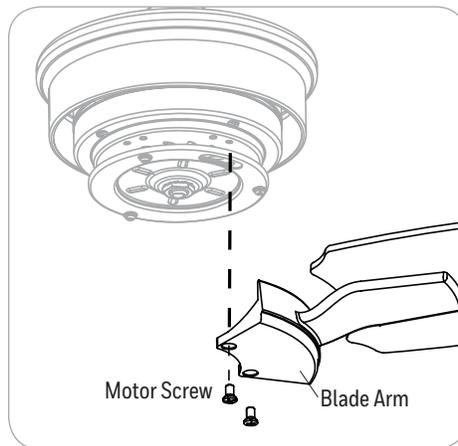

Figure 5.5
- Remove the 10 motor screws from the underside of the motor assembly. Then, install the blade arms to the underside of the motor assembly using the ten previously removed motor screws (Figure 5.5).